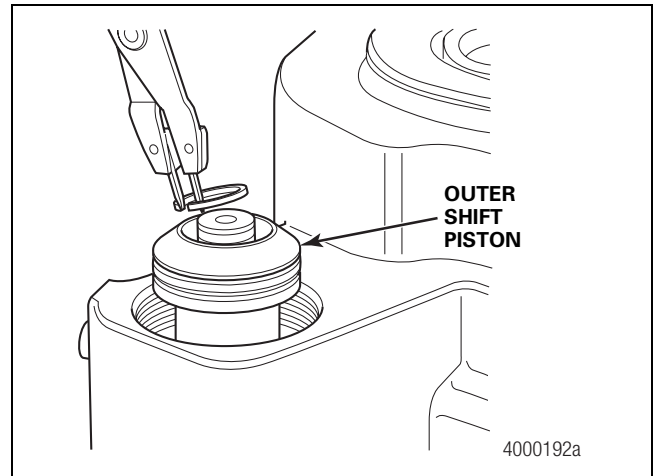

Figure 4.5
- C. Remove the outer shift piston snap ring from the shift shaft. Remove the shift piston. Figure 4.5.